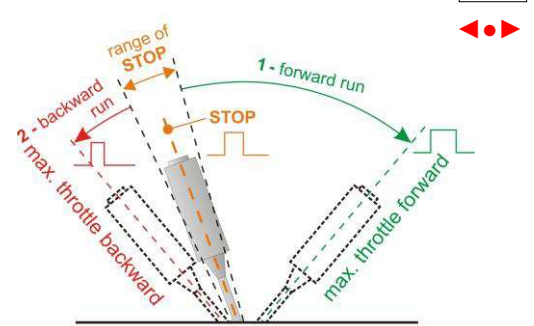

Fig. 7 Bidirectional mode - car (forward):
- g) Car one way** (fig. 7, 8): Backward run is blocked by SW, throttle moving back from neutral activate only brake (at the time brake light is lighting). No possible run backward. Transmitter with lock of STOP position.
- h) Car bidirectional** (fig. 7, 8): Standard bidirectional car driving, motor pass continually from run to braking (at the time brake light is lighting). Backward run is possible only after stop of model and throttle stick start from neutral position. Transmitter with lock of STOP position.